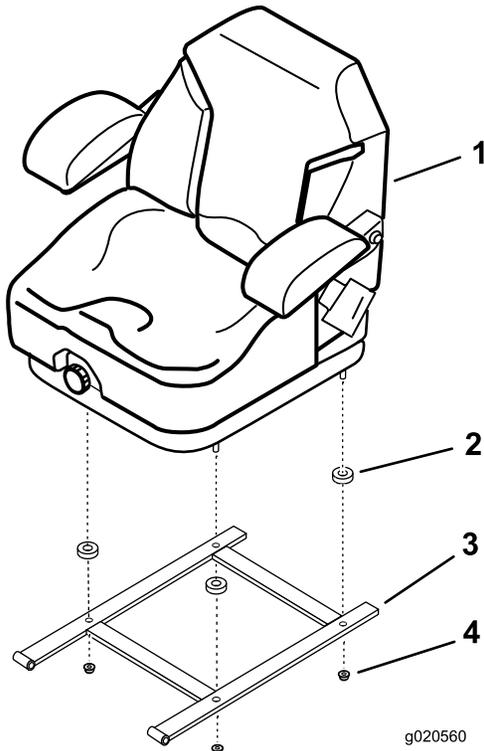

Figure 11
2. Install a spacer onto each seat stud (Figure 11).
3. Install the seat to the seat frame with 4 flange nuts (5/16 inch) (Figure 11).